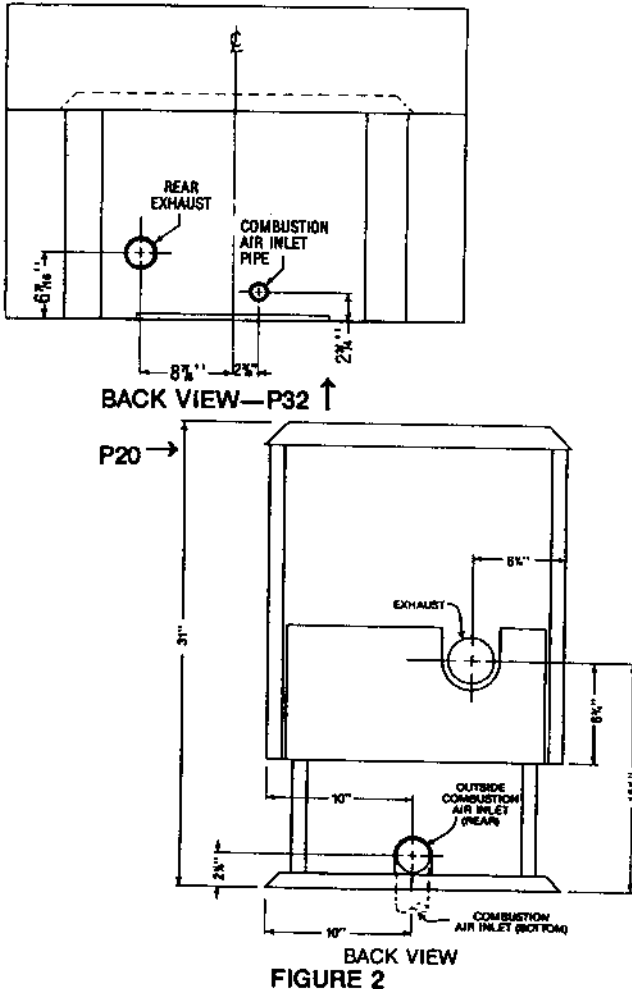

FIGURE 2
For mobile home installation the stove must be connected to an outside source of combustion air. A 1¾" inside diameter metallic pipe, either flexible or rigid should be used when outside air is to be connected. It attaches to an outlet on the stove's rear (see figure 2) and its terminus should have a wind hood or be turned 90° to prevent back draft. It should also terminate with a rodent guard. If outside air is not provided, air should NOT be restricted to the combustion air inlet. Hence in P32 installations, flashing vents should be allowed to provide air to the fireplace cavity. The fireplace opening should not be sealed at the face.
2. Locate position of hole in wall, directly behind stove's exhaust vent (see figure 2).